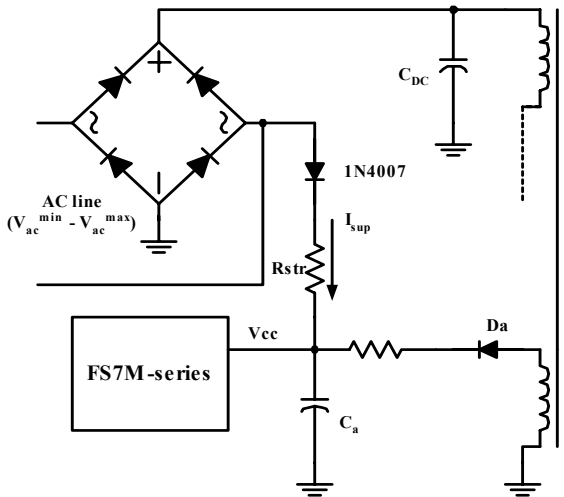
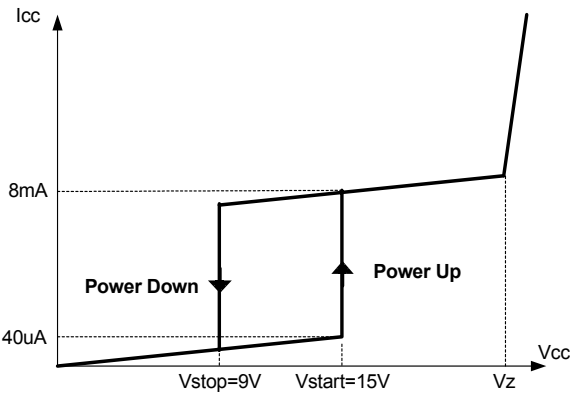

Figure 4. Startup circuit
Figure 5. Relation between operating supply current and Vcc voltage
**1. Startup** : Figure 4 shows the typical startup circuit and transformer auxiliary winding for FS7M-series. Because all the protections are implemented as latch mode, AC startup is typically used to provide a fast reset as shown in Figure 4. Before FPS begins switching operation, only startup current (typically 40uA) is consumed and the current supplied from the AC line charges the external capacitor ( $C_a$ ) that is connected to the Vcc pin. When Vcc reaches start voltage of 15V ( $V_{start}$ ), FPS begins switching, and the current consumed by FPS increases to 8mA. Then, FPS continues its normal switching operation and the power required for this device is supplied from the transformer auxiliary winding, unless Vcc drops below the stop voltage of 9V ( $V_{stop}$ ). To guarantee the stable operation of the control IC, Vcc has under voltage lockout (UVLO) with 6V hysteresis. Figure 5 shows the relation between the FPS operating supply current and the supply voltage (Vcc).